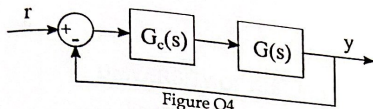

Figure Q4
- a) i) Consider the closed-loop control system shown in Figure Q4. The reference, r in this system is a unit step. What types of compensators can be used for $G_c(s)$ for the following purposes?
- ii) Consider the closed-loop control system shown in Figure Q4. The reference r in the system is a unit step. Prove that the steady state error of this system can be driven to zero when Proportional plus Integral (PI) compensator is used. Assume that $G(s)$ does not contain a zero at the origin.
- b) Consider the closed-loop control system shown in Figure Q4 where